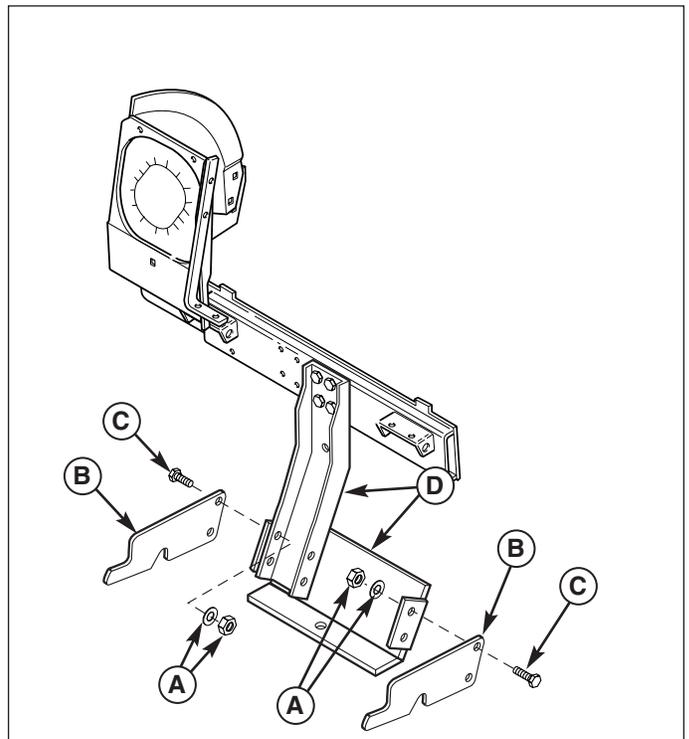

Figure 7. Assemble Catcher Frame (Prestige Shown)
4. Install the hitch side plates (B, Figure 7) and secure with four 3/8-16 x 1-1/4 capscrews (C), lockwashers, and 3/8-16 nuts (A).